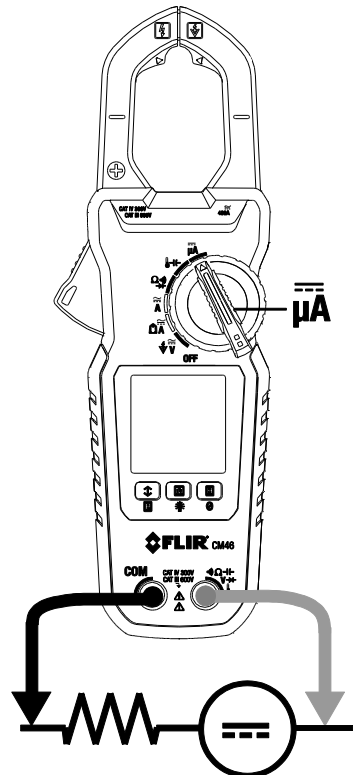

Figure 5-5  $\mu\text{ADC}$  Measurements
1. For clamp-on current measurements, press the jaw trigger and clamp the jaws around the conductor(s) of only one pole of a circuit. See Fig. 5-5.
3. Touch the tips of the probe in series with the circuit under test as shown in Fig. 5-5.